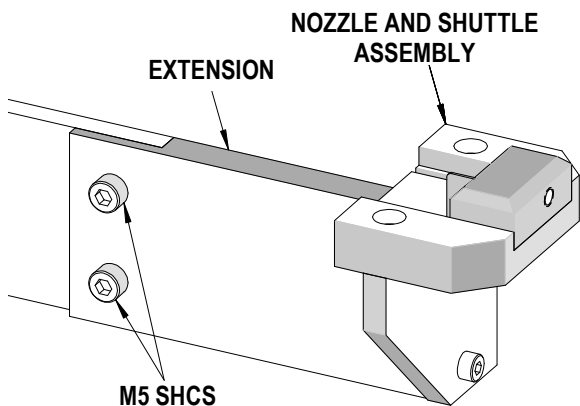

Figure 2-8B
5. If Molex standard tubes are to be used, install the extension using the (2) M5 SHCS.
6. Reinstall the nozzle and support assembly to the new end. See Figure 2-8B.